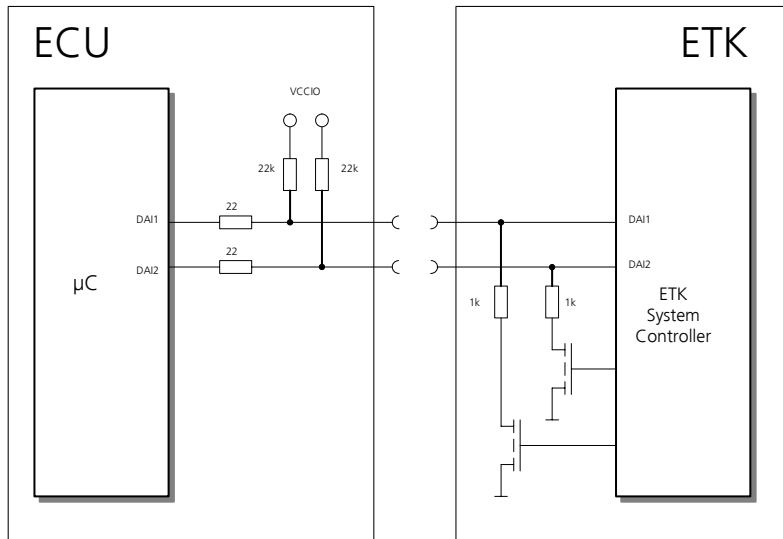

Fig. 3-3 Equivalent Circuitry of the DAI Interface
- Insert 22 kOhm pullup resistors and 22 Ohm series resistors on each of the 2 DAI signals (refer to Fig. 3-3).